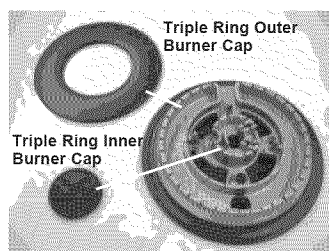

Fig. 6
- Remove both Inner & Outer Triple Ring Burner Caps (See Fig. 6).